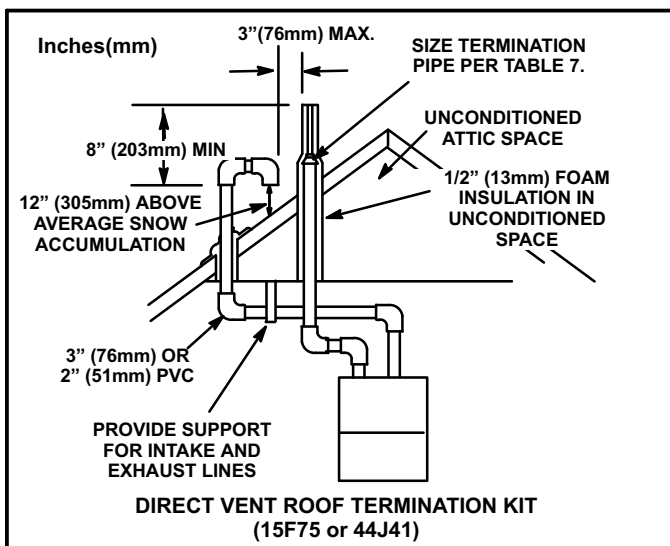

FIGURE 28
Intake and exhaust pipes may be routed either horizontally through an outside wall or vertically through the roof. In attic or closet installations, vertical termination through the roof is preferred. Figures 28 through 40 show typical terminations.
- 3 - On roof terminations, the intake piping should terminate straight down using two 90° elbows (See figure 28).